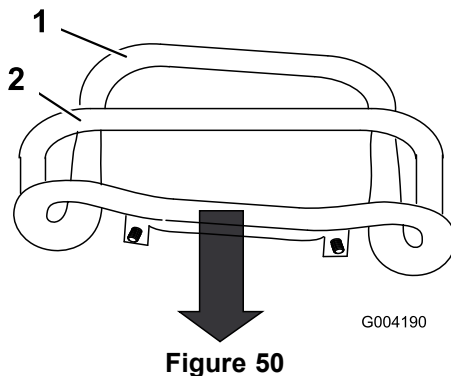

Figure 50
3. Pull straight back on the traction control so the front of the control contacts the reference bar (Figure 50).